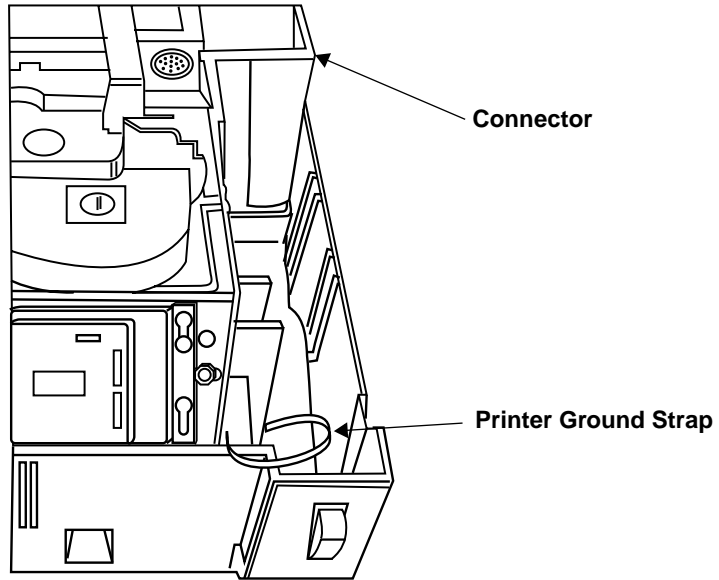

Figure 5-7. Disconnecting Cable from Connector
5. Disconnect cable from connector on the right side. See **Figure 5-7**.
- Disconnect the printer ground strap (slide on connector) from the right side of the printer, as shown in Figure 5-7).